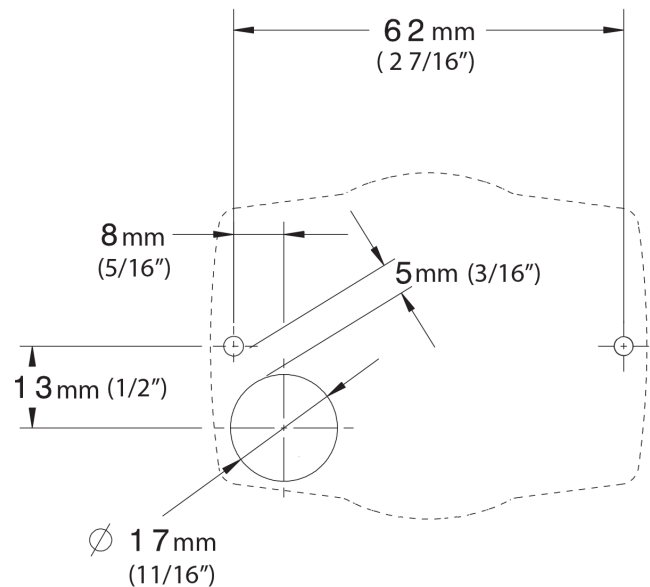

Figure 33. SmarTemp drilling dimensions
- Use the drilling dimensions (fig. 33) to lightly mark the two mounting holes.
The vehicle's own heater fan can be controlled using a relay, see circuit diagram Figs. 33 or 34 (connector X8 contact 2 Violet or contact D of X13).